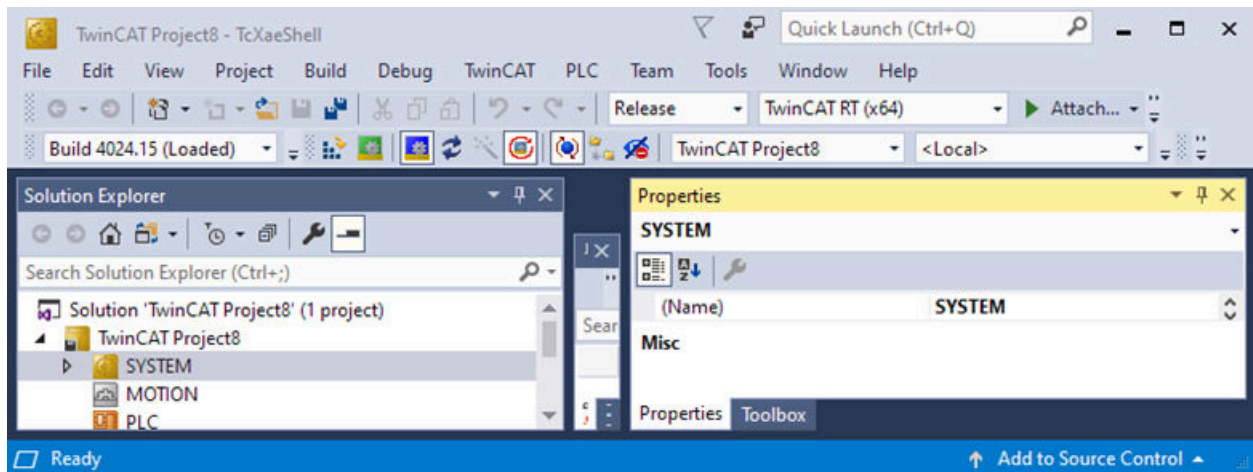

Fig. 13.3: Project running configuration
3. The *Restart TwinCAT (Config Mode)*, *Toggle Free Run State*, and *Show Online Data* buttons should all be pressed, as shown in Fig. 13.3.